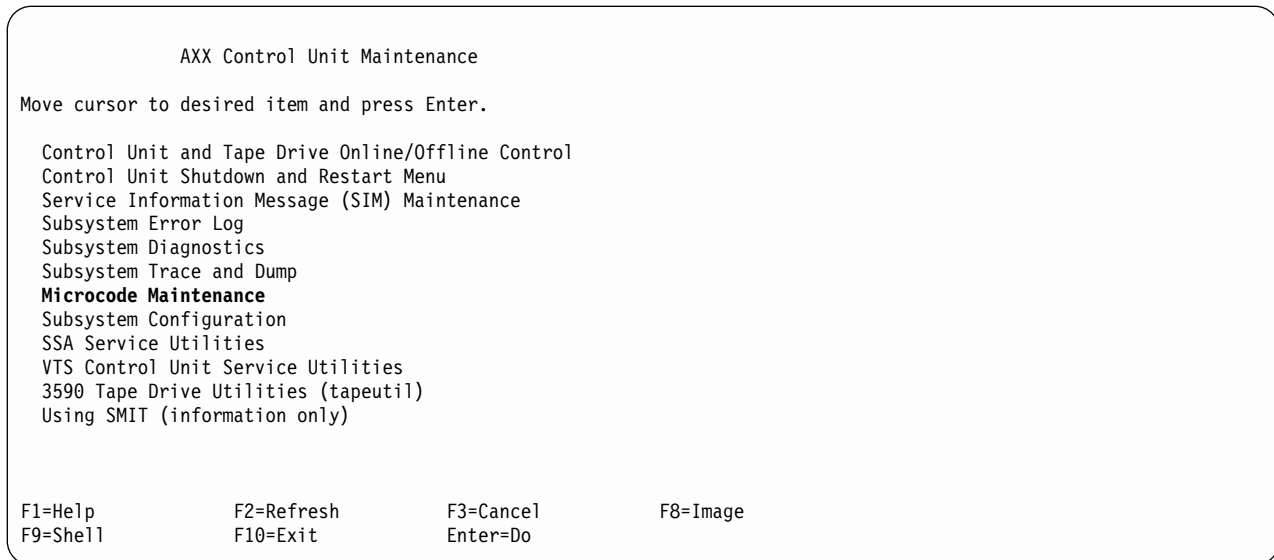

Figure 11-29. Main Maintenance Screen
- \_\_\_ Step 1. Bring up EBTERM/NetTerm go to “Setting up the EBTERM or Terminal Emulator (OS/2 Platform)” on page 11-13. At the Axx Controller Maintenance screen Figure 11-29, select **Microcode Maintenance**.